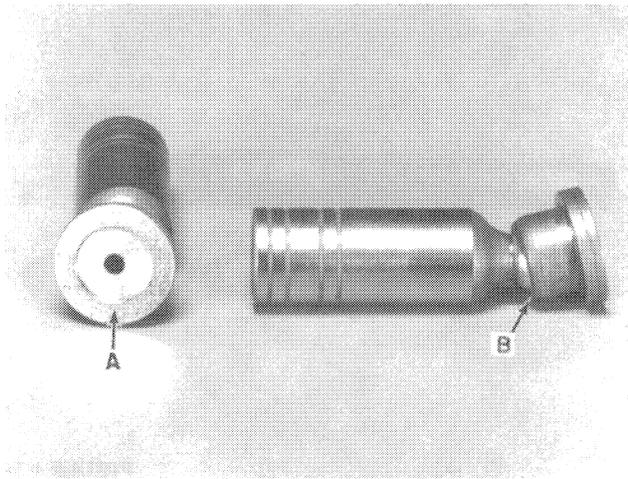

FIGURE 4-8
- B Piston and shoe assembly (also shown in Figure 4-8)